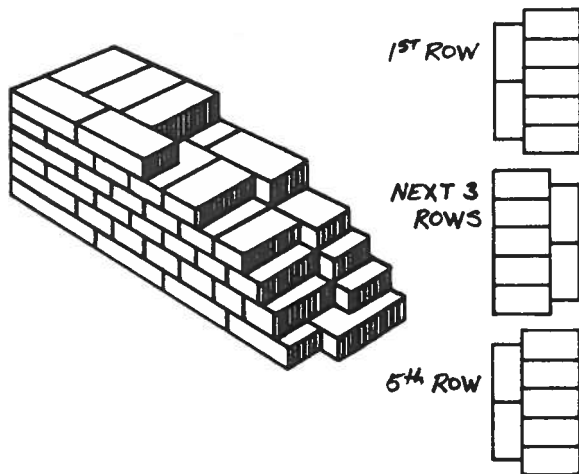

Fig. 2-10: Method 2 for laying a 13 1/2" wall.
2. In the second method, the wall is laid with four rows of hot-face stretchers backed by headers, and one row of headers, which, in turn, is backed with stretchers (Fig. 2-10). The advantage of this construction is that it makes for easier repair.